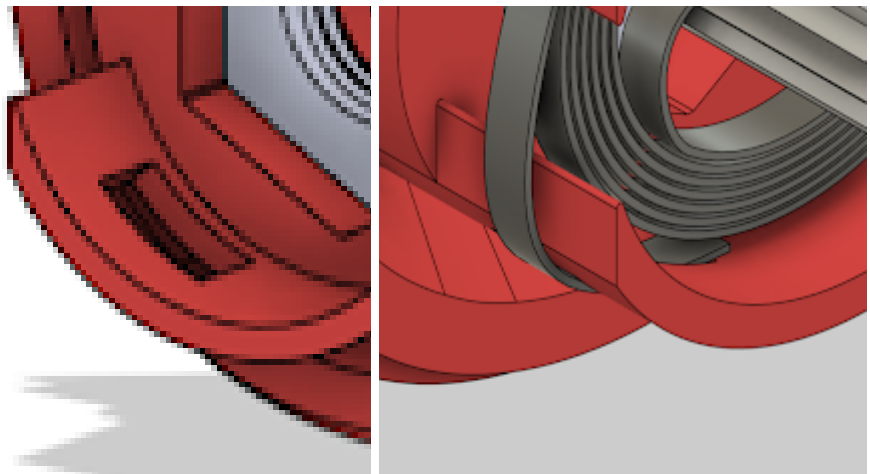

Figure 3.3.a (left): Spring hole in Potentiometer Tensioner (Red).
3. Align the small cutout of the badge reel spring into the small hole (Figure 3.3.a) in the cylinder of the potentiometer tensioner. Then, rotate the spring 90 degrees to connect both (Figure 3.3.b).